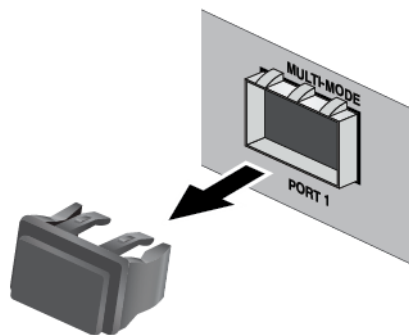

Figure 20. Removing the Dust Plug from an SFP Slot
2. Remove the dust plug from the SFP slot. See Figure 20.